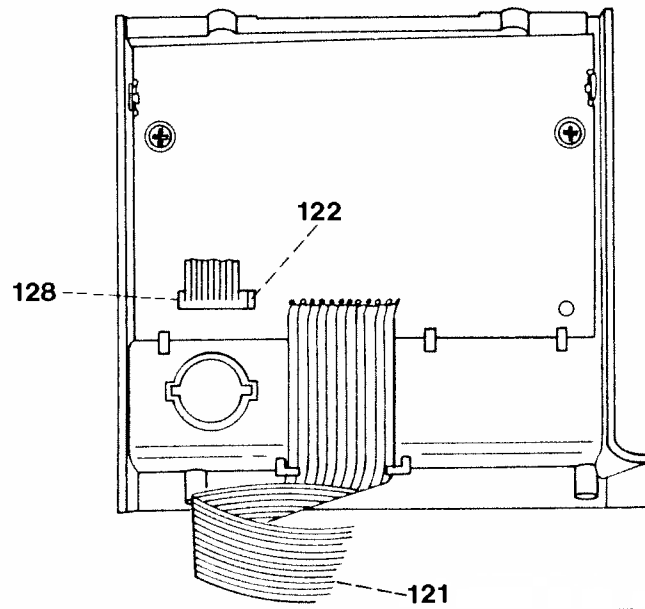

Fig. 30b
- Push lock 122 a little to the side (Fig. 30b).
- Insert ten-connection plug 128 in the ten-pin base (Fig. 30b).